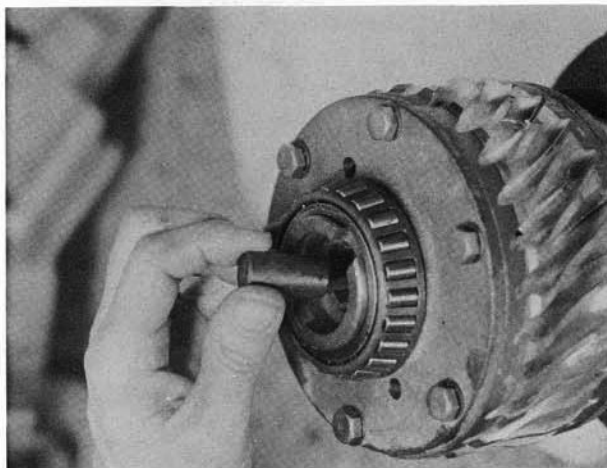

Figure 44
17. Place the Thrust Pin (6711) in the center of the spider pin, see Figure 44.